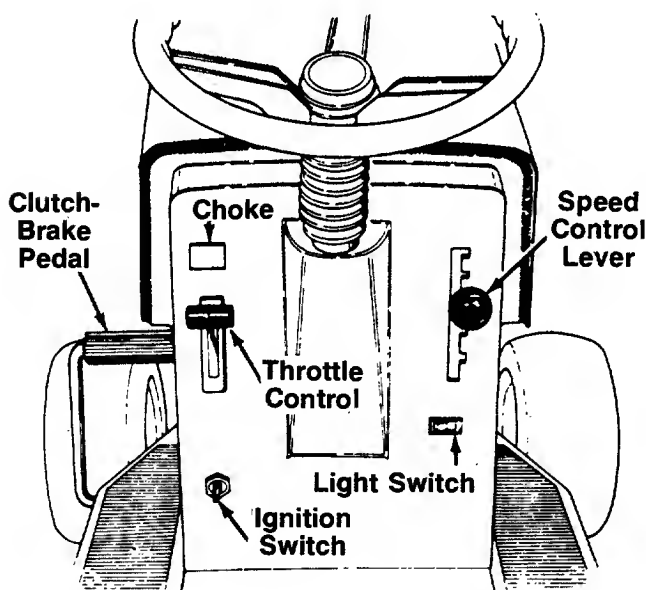

FIGURE 11.
The throttle control is used to regulate the engine speed. To get maximum efficiency from cutting, the throttle should be in the FAST position when operating the mower. See figure 11.
The choke control is located on the dashboard and is operated manually. Details for the choke operation are covered in the separate engine manual packed with your unit. See figure 11.
The speed control lever allows you to regulate the ground speed of the lawn tractor. See figure 11. To select the ground speed, depress clutch pedal. Push speed control lever inward and move downward to slow lawn tractor, move upward to increase speed. When desired speed has been obtained, release lever in that position. Whenever clutch is engaged, unit will automatically go to the pre-set speed.
Turn the key to the START position to start the engine. When the engine is running, let the key return to the ON position. To stop the engine, turn the key to the left to the OFF position and remove it to prevent accidental starting. See figure 11.
Push the light switch to turn on the lights. The lights will only operate when the engine is running. See figure 11.
The clutch-brake pedal is located on the left side of the lawn tractor. Depressing the clutch-brake pedal part way disengages the clutch. Pressing the pedal all the way down disengages the clutch and engages the disc brake. See figure 11.
3. Set the throttle control in the FAST position. See figure 11.
5. Turn the ignition key to the START position. When the engine is running, let the key return to the ON position. See figure 11.